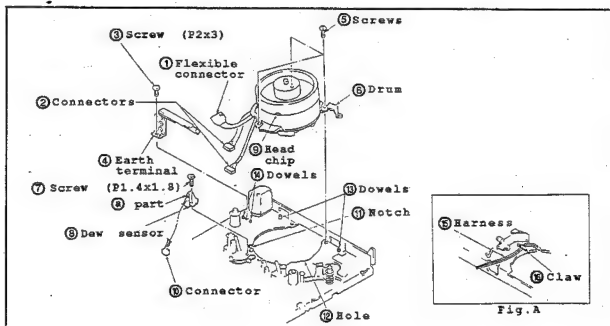

Fig. II-19
• Disassembling (Fig.II-19)
- (1) Set unloading state.
- (2) Unplug the flexible connector ① and the connectors ②.
- (3) In the same procedures in "3-2", detach the guide guard.
- (4) To detach the earth terminal ④, remove the screw ③.
- (5) To dismount the drum ⑥ from the chassis, remove the three setscrews ⑤.
- (6) Disconnect the connector ⑩.
- (7) To detach the dew sensor ⑧, remove the screw ⑦.
• Reassembling (Fig.II-19)
- (1) Mesh the ⑨ part of dew sensor ⑧ with the notch ⑪. Then, secure them with the screw ⑦.
- (2) Attach the connector ⑩.
- (3) Put the harness ⑤ of dew sensor ⑧ under the claw ⑫. (Fig.A)
- (4) Insert the connectors ② and the flexible connector ① into the chassis' hole ⑬.
- Then, mount the drum while aligning the dowels ⑭, and secure it with the screws ⑤.
- (5) While aligning the earth terminal ④ with the chassis' two dowels ⑭, secure it with the screw ③.
- (6) In the same procedures in "3-2", attach the guide guard.
- (7) Attach two connectors ② and the flexible connector ① to the C.B.A..
*Notes: 1. Be careful not to flaw the head chip ⑨ and the tape path surface of drum ⑥.